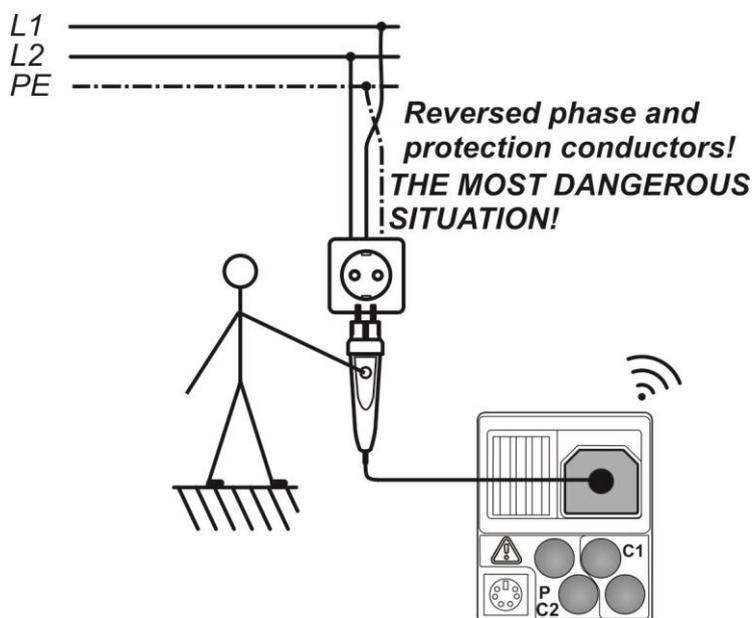

Figure C.4: Reversed L and PE conductors (application of plug commander)
- ❑ **Connect** commander to the item to be tested (see figure C.4).